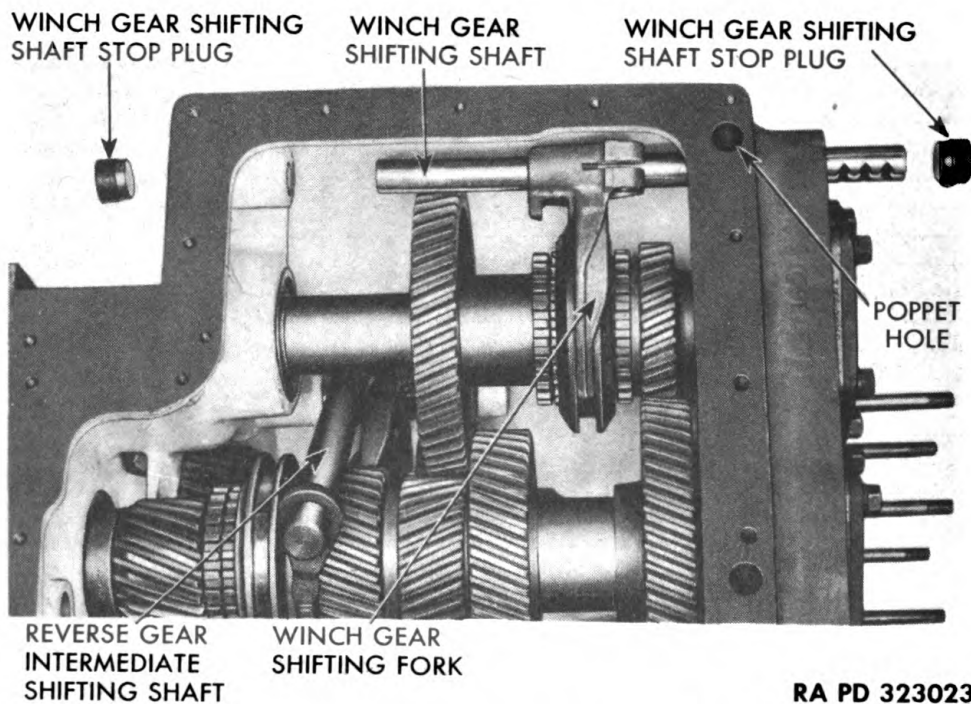

Figure 22 — Transmission Winch Gear Shifting Shaft Partially Removed
(2) **REMOVE SHIFTING SHAFTS** (fig. 2). Remove cap screw and lock washer from winch gear shifting fork. Remove cap screw, lock washer, and nut from reverse gear upper shifting shaft rear head. Slide first and second, third and fourth, and reverse gear shifting shafts toward rear of transmission while detaching from shifting head and forks. If forks or head bind on shafts, spread with a cold chisel. When removing reverse shaft from rear end of transmission case, place hand over poppet hole to prevent poppet and spring from flying out. Remove reverse gear intermediate shifting shaft (fig. 22). Remove winch gear stop plugs from transmission case at each end of winch shifting shaft. Turn shaft to disengage poppet from slots in shaft, and slide it out toward rear of transmission case, removing fork.